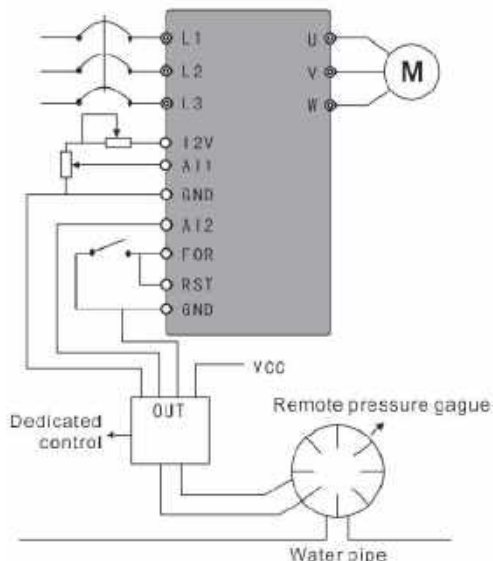

Figure F-6 Constant-pressure Water Supply – Remote Pressure Gauge
(2) Use remote pressure gauge of 0-10kg; as required, use external terminal to control the operation and stop and set target value via potentiometer. As shown in Figure F-6.